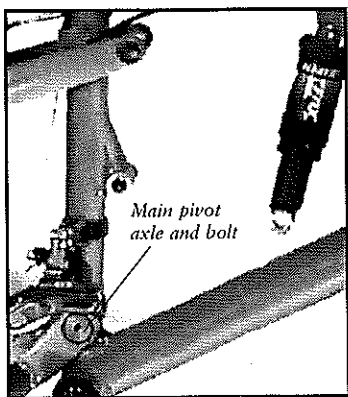

Fig. P2
4. Remove the main pivot bolt (Fig. P2).